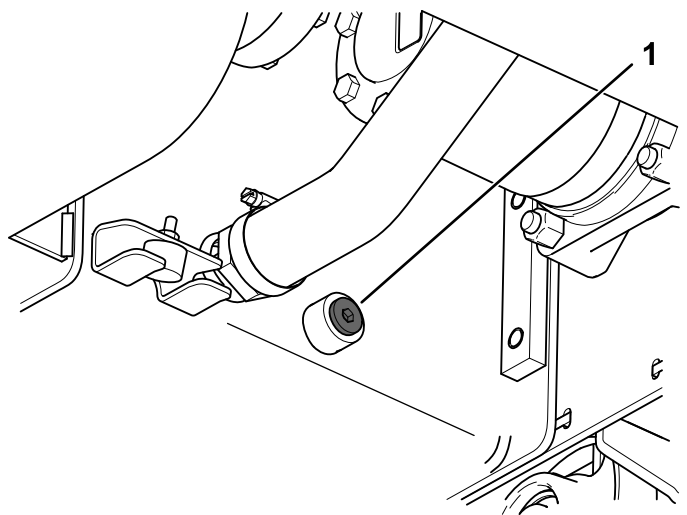

Figure 63
9. Remove the drain plug and allow the hydraulic fluid to drain into the pan (Figure 63).
- A. Remove the 2 bolts and nuts securing the boom to the trencher arm (Figure 63).